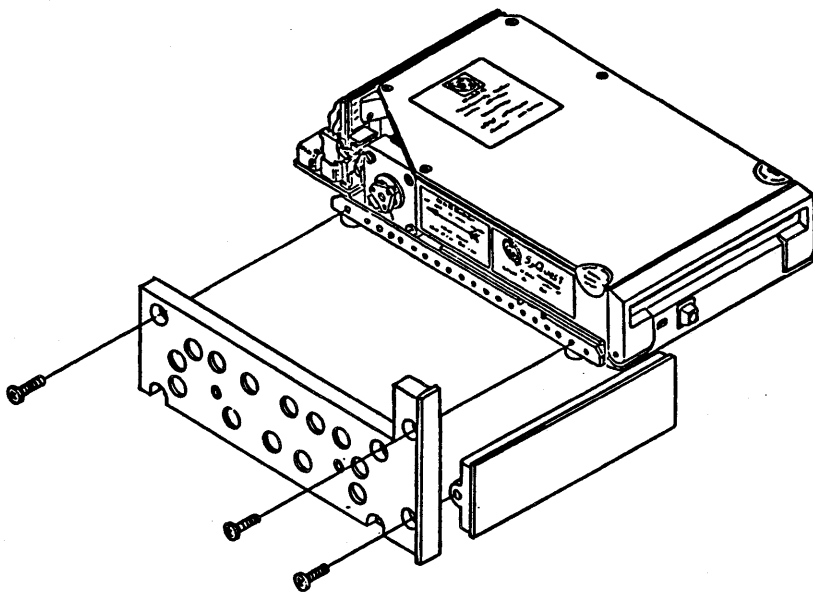

FIGURE 10-3
1. Place the drive on its right side and attach the left side bracket assembly (Item #1) with 2 of the mounting screws (Item #3) provided as shown in Figure 10-3. Do not tighten the mounting screws.